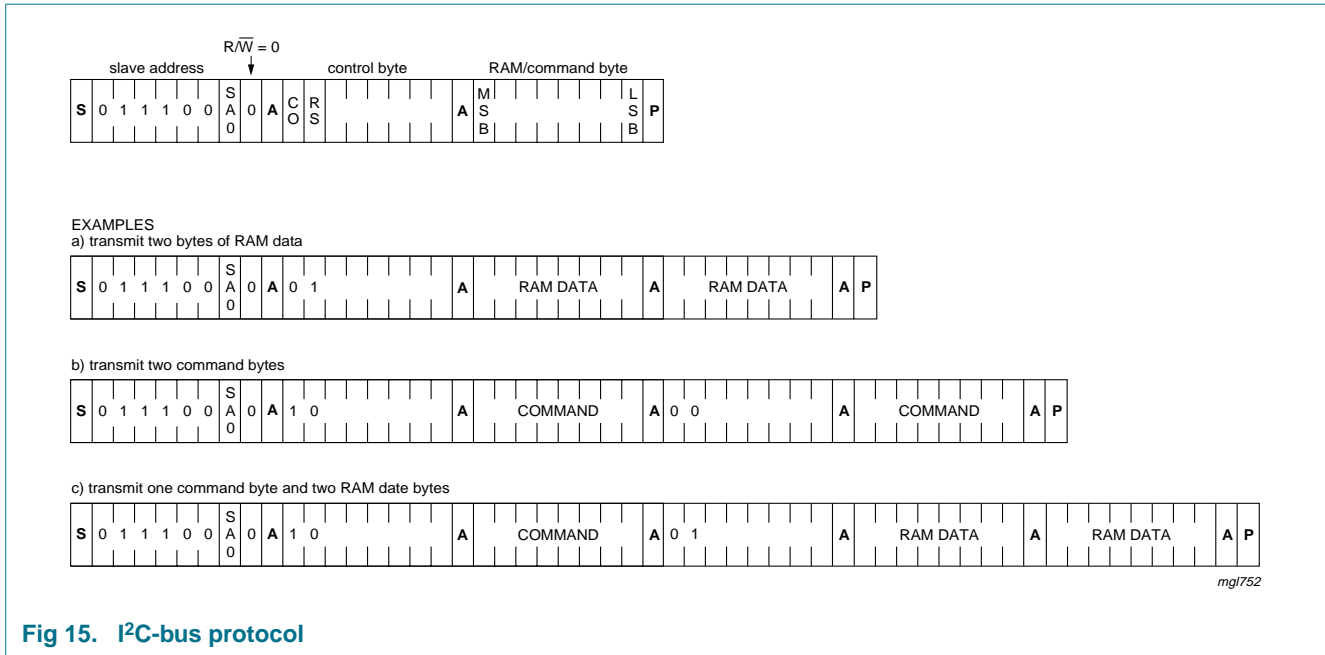

Fig 15. I2C-bus protocol
The I2C-bus protocol is shown in Figure 15. The sequence is initiated with a START condition (S) from the I2C-bus master which is followed by one of the two PCF8532 slave addresses available. All PCF8532's with the corresponding SA0 level acknowledge in parallel to the slave address, but all PCF8532's with the alternative SA0 level ignore the whole I2C-bus transfer.